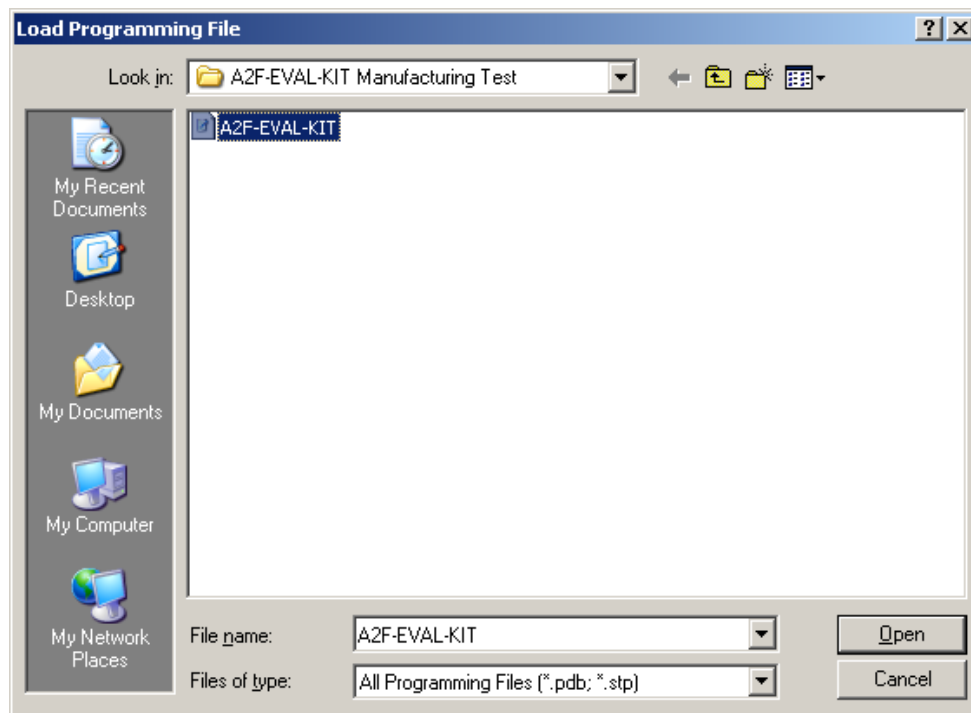

Figure 7-4 • Selecting Manufacturing Test STAPL File
5. Browse the PC file system to find the A2F-EVAL-KIT.stp programming file. Click **Open** to select the A2F-EVAL-KIT.stp file (Figure 7-4).